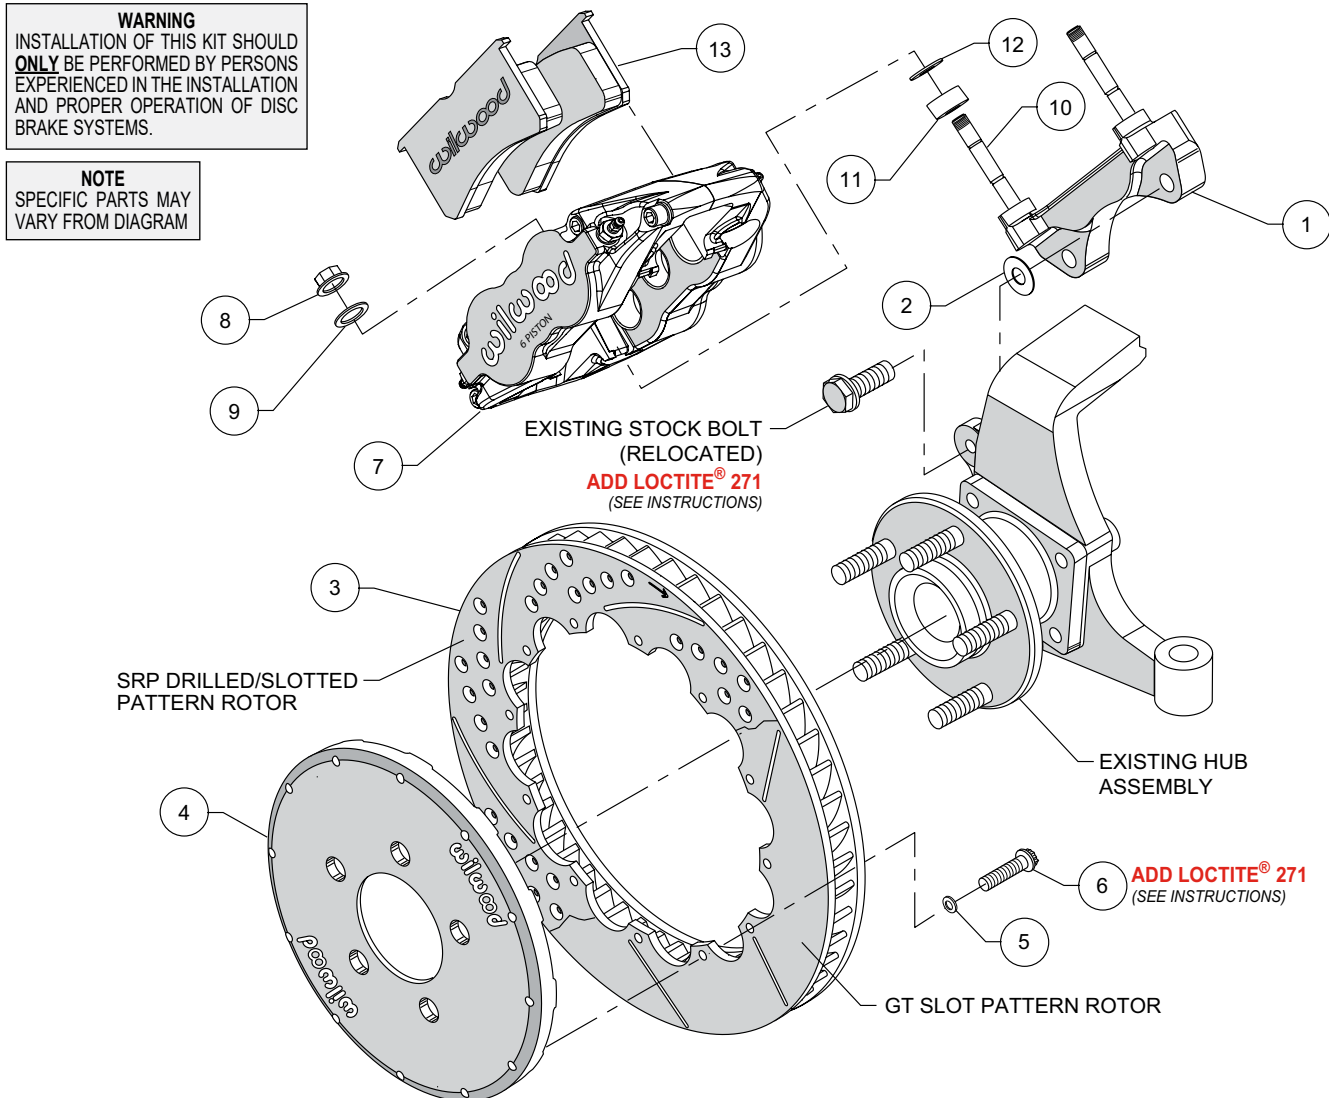

Figure 1. Typical Installation Configuration
**NOTE:** Numbers in parenthesis refer to the parts list and Figure 1 on the preceding pages.
- The caliper mount bracket assembly (1) should be installed first with clean, dry threads on the mounting bolts. Install the bracket using the original caliper mount bolts. The bolts will now pass through the spindle from the opposite direction that they were removed as shown in Figure 1 and Photo 1. Use one thin shim (2) between the bracket and spindle during initial trial fitting, Figure 1 and Photo 2. The bracket must tighten squarely against the inboard side of the caliper mount bosses on the spindle body, Photo 3. Inspect for interference from casting irregularities, machining ridges, burrs, etc. Later, after the caliper, pad, and rotor alignment have been checked, and any necessary shims have been put in place, the mount bolts should be coated with red *Loctite*® 271 and torqued to 65 ft-lbs.
- Orient the rotor (3) and hat (4) as shown in Figure 1 and Photo 4. Attach the rotor to the hat with bolts (6) and washers (5). Be sure all bolts thread in smoothly and are snug. Apply red *Loctite*® 271 to the bolt threads and torque to 155 **in-lb** using a criss-cross pattern. For an added measure of security, the bolts may be safety wired using standard 0.032 inch diameter stainless steel safety wire as shown in Figure 3. Please refer to Wilwood's data sheet DS-386 (available at [www.wilwood.com/Pdf/DataSheets/ds386.pdf](http://www.wilwood.com/Pdf/DataSheets/ds386.pdf)) for complete safety wire installation instructions.
- NOTE:** This kit contains distinct right and left hand calipers that must be mounted in a specific direction, as described below. Initially place one .035" thick shim (12) and spacer (11) on each stud (10) as shown in Figure 1 and Photo 6. Mount the caliper (7) onto the bracket (1) using lock nuts (8) and washers (9), Figure 1 and Photo 7. Ensure that the caliper is mounted so that the largest pistons are at the rotor exit end of the caliper, in relation to the direction of rotor rotation. Temporarily tighten the lock nuts and view the rotor through the top opening of the caliper. The rotor should be centered in the caliper. If not, adjust by adding or subtracting shims (2) between the bracket and the upright. Always use the same amount of shims on each of the two mounting bolts. Once the caliper alignment is correct, remove the bracket mounting bolts one at a time, apply red *Loctite*® 271 to the threads, and torque to manufacturer's specifications.
- Remove the caliper center bridge pad retainer bolt, nut, and tube from the caliper. Slide the brake pads (13) into place, Photo 8. They should install easily without interference. Check that